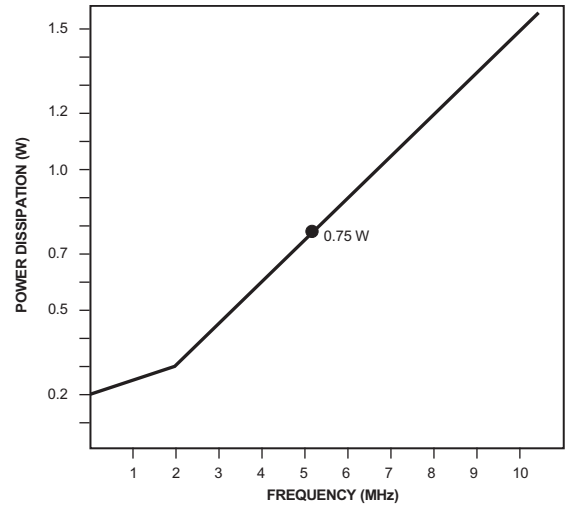

Figure 4. Power Dissipation Versus Switching Frequency
-55 to +125°C	See Figure 4
Pd versus Frequency	See Figure 4
3. When power is off, current limit input signals on pins 4, 5, 6, and 7 to 20mA. Failure to current limit can cause permanent damage to the device since, when powering up or down it is possible that two switches might be on at the same time. Excessive current (greater than 20mA) will flow from the more positive input to the more negative input, permanently damaging the device. Applications in which the power supply for the multiplexer also powers the signal sources may not require limiting resistors. See Figure 4.